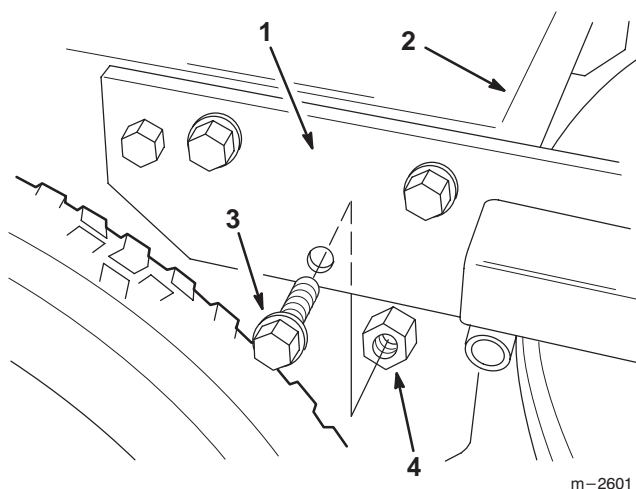

Figure 3
1. Align the carrier frame holes with the mounting holes in the traction unit frame (Fig. 3).
2. Fasten each side of the carrier frame to the traction unit with three (3) 1/2"-13 x 1" (25 mm) flange screws and locknuts. Torque the mounting screws to 60–80 ft-lb (81–109 N•m) (Fig. 3).